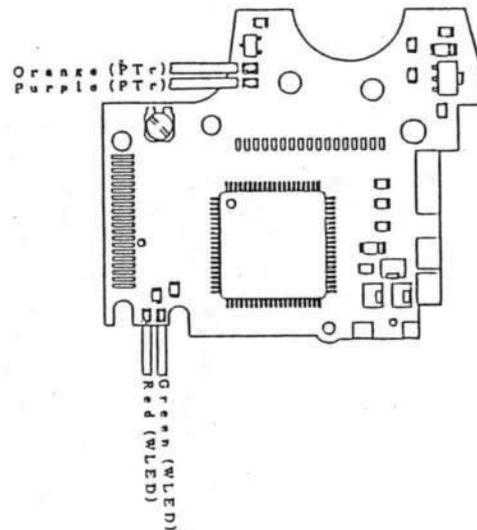

Fig.37
- (1) Put the CPU PCB (No.11) to the body.
- (2) Put the RW BUTTON HOLDER (No.13), RW SW (No.14) then tighten SCREW (No.12)
- (3) Put the AE FPC on the CPU PCB then put the FPC HOLDER (No.10) and tighten two SCREWS (No.9)
- (4) Put the LCD FRAME (No,7) on the CPU PCB and tighten three SCREWS (No.4,5,6).
- (5) Put the CONNECTOR (No.8) and the LCD (No.1) to the LCD frame.
- (6) Put the HOLDER (No.3) and tighten two SCREWS (No.2).
- (7) Solder four LEAD WIRES (Orange, Purple/PTr, Red, Green/W LED) as shown in Fig. 37.